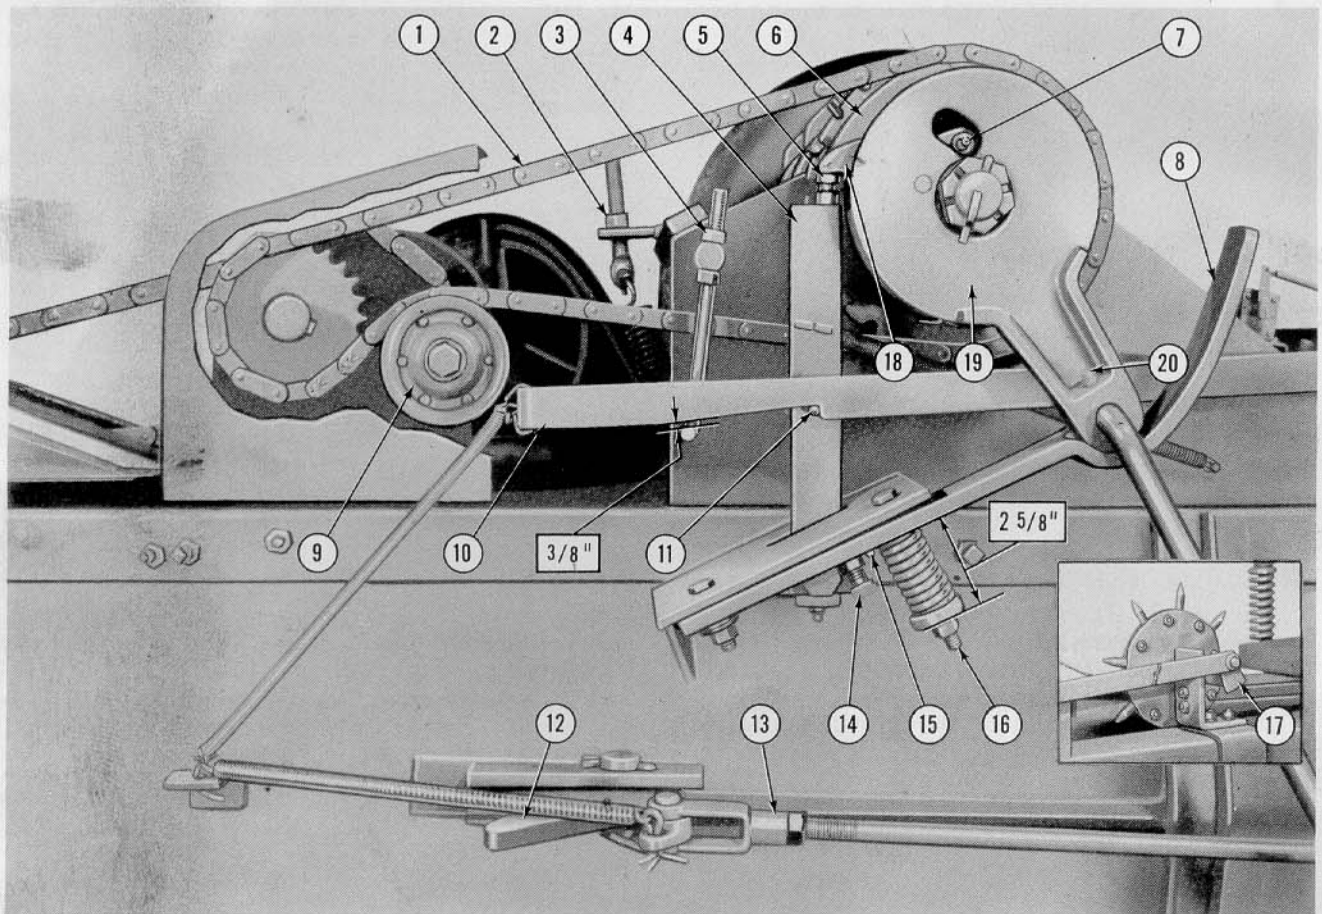

Figure 17
5. Proper tension of the knotter drive chain (1), Figure 17, is maintained by the chain tightener (9).
Hay Dogs: As each charge of hay is compressed in the chamber by the plunger head, hay dogs in the top and bottom of the bale chamber are forced out of the chamber by the hay and plunger. As the plunger starts its return stroke, the hay dogs should quickly "snap" back into the chamber, to hold the charge of hay in compression. Tension on the hay dog springs is increased by means of the draw bolt (2), Figure 17, and a similar draw bolt located under the baler.
Clutch Trip Arm: Adjust the set screw (5), Figure 17, at the top of the clutch trip arm (4) as follows:
1. Seat the knotter arm (20) in the depression on the friction brake (8) as shown.
2. Rotate the baler flywheel until the clutch dog inside the knotter drive sprocket (6), Figure 17, is directly over the pawl roller (7).
3. Trip the knotter by pushing the trip arm (4), Figure 17, forward.
4. Adjust the set screw (5), Figure 17, so that the top of the set screw extends $\frac{1}{16}$ to $\frac{1}{8}$ inch above the bottom of the clutch pawl (18).
Knотter Trip Rod Return Lever: The trip rod return lever (10), Figure 17, should clear the knотter trip rod (10) by approximately $\frac{3}{8}$ " when the trip rod is in the tripping position against the pin (11) and the metering wheel arm (17) is in the "up" position as shown.
Needle Friction Brake: For proper tension on the needle friction brake (8), Figure 17, adjust the spring (16) to a length of approximately $2\frac{5}{8}$ inches as shown. A set screw (14) is provided to limit the movement of the friction brake. To adjust the set screw, seat the knотter arm (20) in the depression on the friction brake (8). Turn the set screw (14) in until it just touches the bracket, then back it off $\frac{1}{4}$ turn and lock with the jam nut.
1. Trip the knотter by releasing the knотter clutch trip arm (4), Figure 17.
1. Remove the drive chain (1), Figure 17, from the knotter clutch sprocket (6).
3. Turn the knotter clutch sprocket (6), Figure 17, counter-clockwise until the clutch pawl roller (7) engages the dog inside the clutch sprocket.
4. Replace the knotter drive chain (1), Figure 17, taking the slack out of the top span and fastening the chain at the bottom.
5. Adjust the knotter drive chain tightener (9), Figure 17, until the top span of the chain can be depressed about $\frac{1}{2}$ inch.
Plunger Head Lock: The plunger head lock (12), Figure 17, is provided as protection for the baler needles if the baler should get out of time. With the needles in the full down position, the inner edge of the latch should be flush with the outside of the bale chamber. The lock may be adjusted by means of the clevis (13).
1. Trip the knotter mechanism by releasing the knotter clutch trip arm (4), Figure 17, then turn